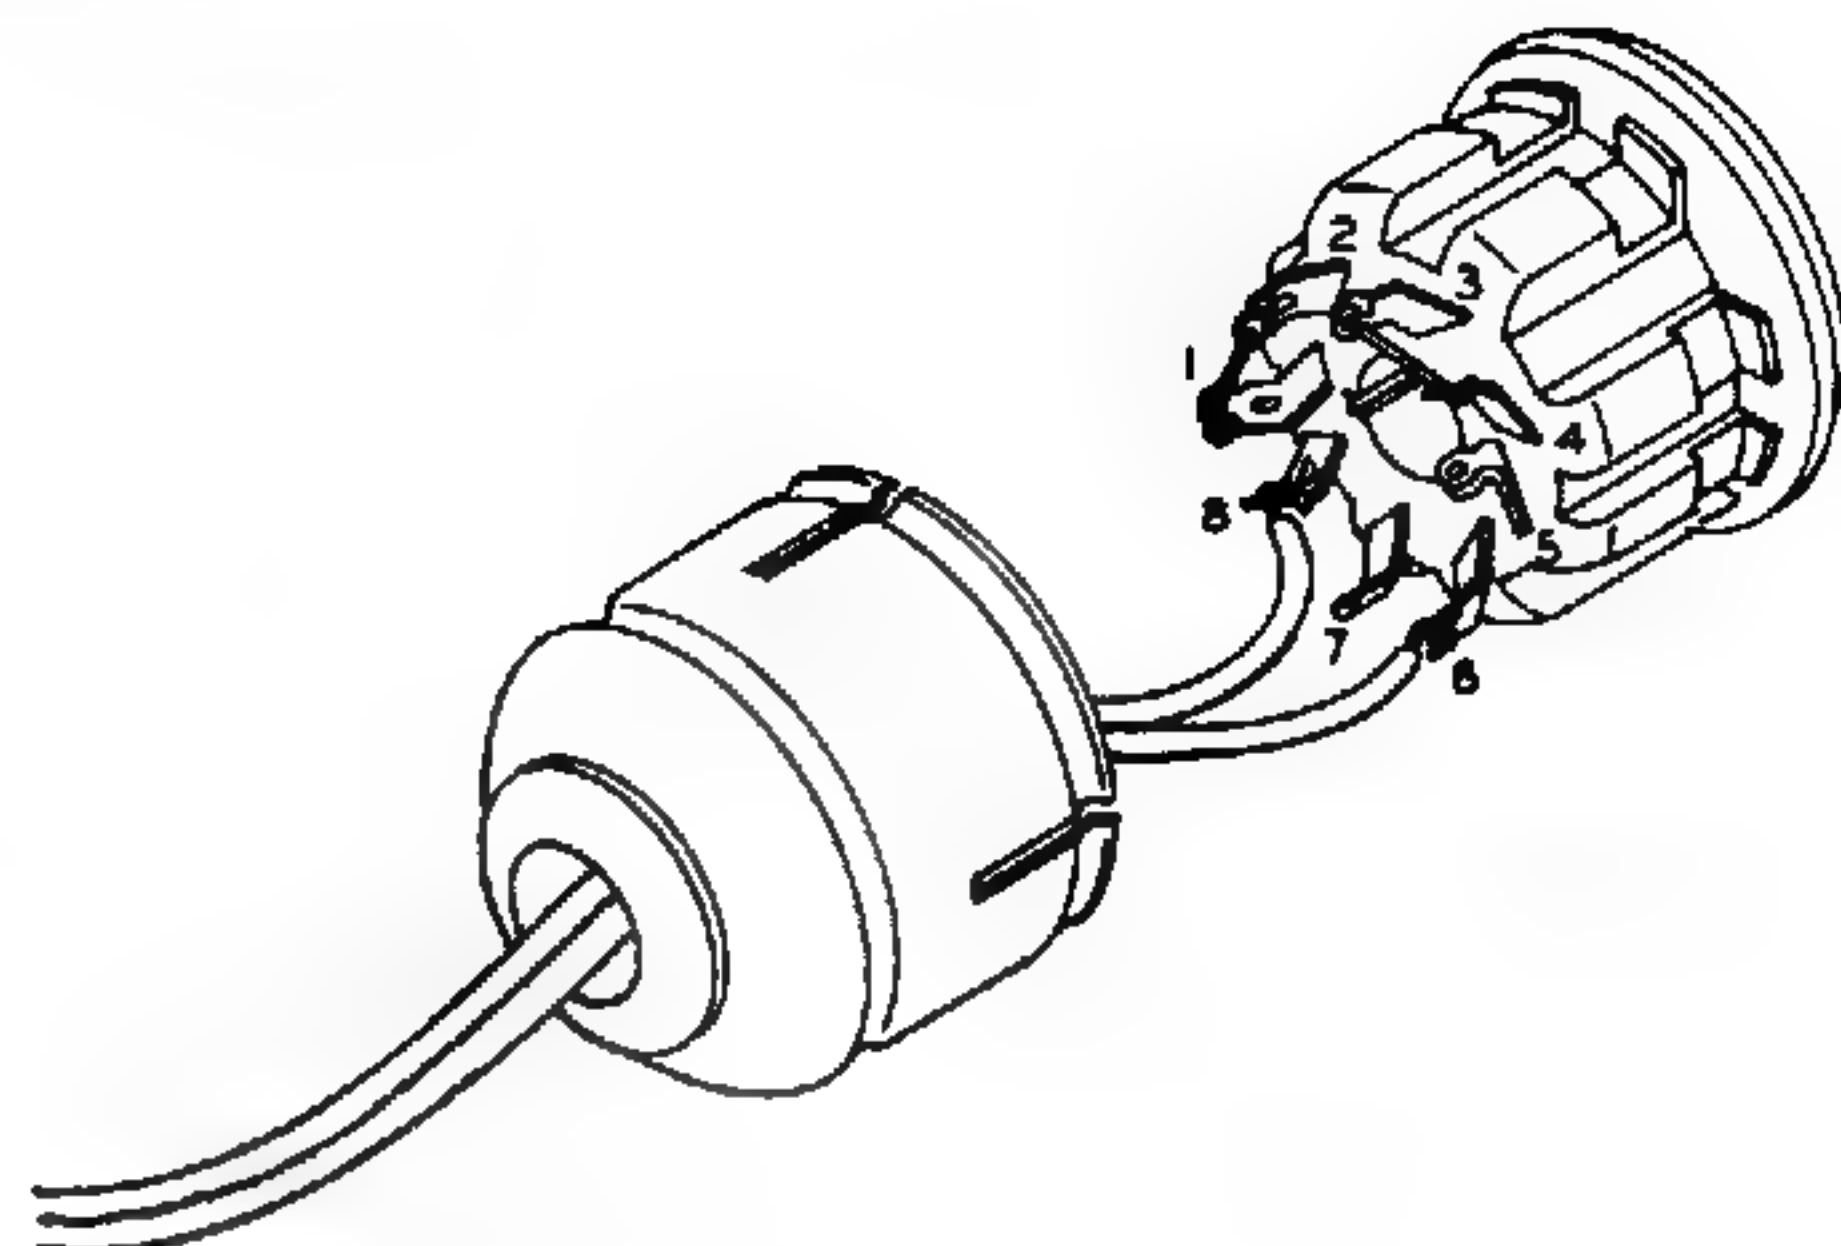

Figure 2
Refer to Figure 2 for the following steps.
- (✓) Check the line cord and socket pins with an ohmmeter to be sure no connections exist between socket pins other than those shown in Figure 2.